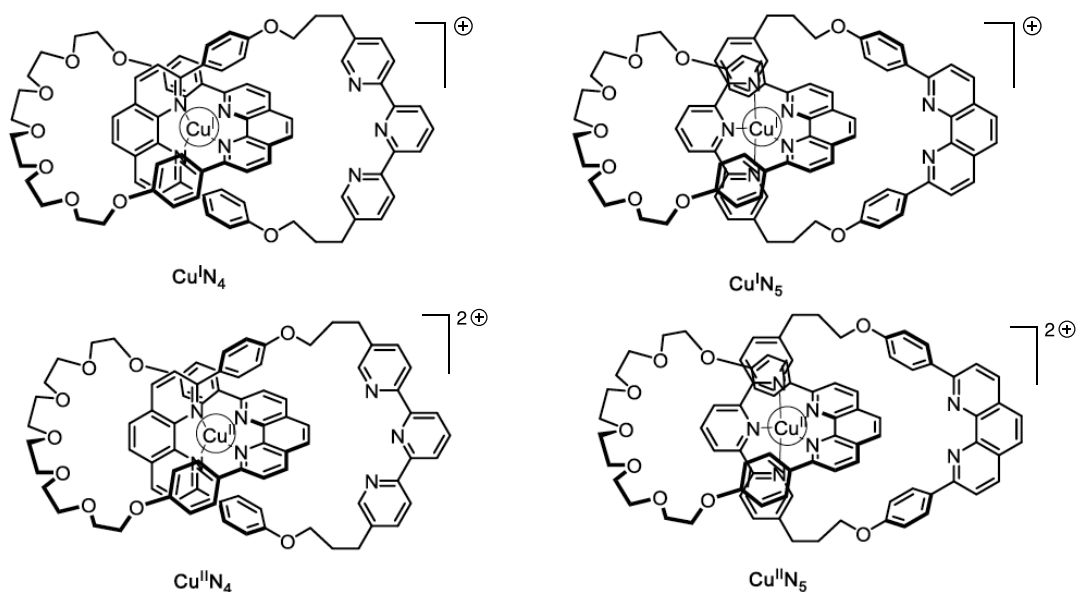

Fig. 2 – [2]catenane **L** states
11. **Write** the appropriate complexes from Fig. 2 in the solid boxes. **Fill** in the dashed boxes with one of the following symbols:  (rotation); $+ e^-$; $- e^-$ to illustrate (şekillendirilişi) the electrochemical changes in the system.